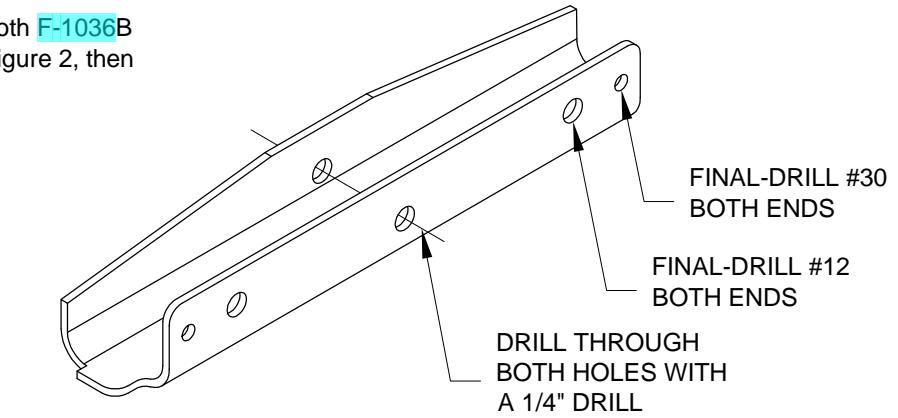

FIGURE 2: FINAL-DRILLING THE F-1036B BATTERY CHANNELS
Step 7: Final-Drill the holes of both F-1036B Battery Channels according to Figure 2, then deburr the holes and edges.